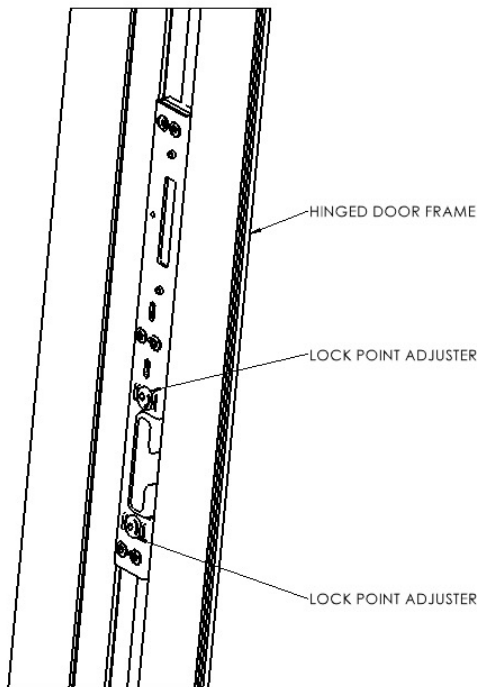

Figure 5
7. Ensure the door leaf is not racked or crooked, operates smoothly and locks with little effort. Individual locking points are adjustable by turning the adjustment screw. (See Figure 5).